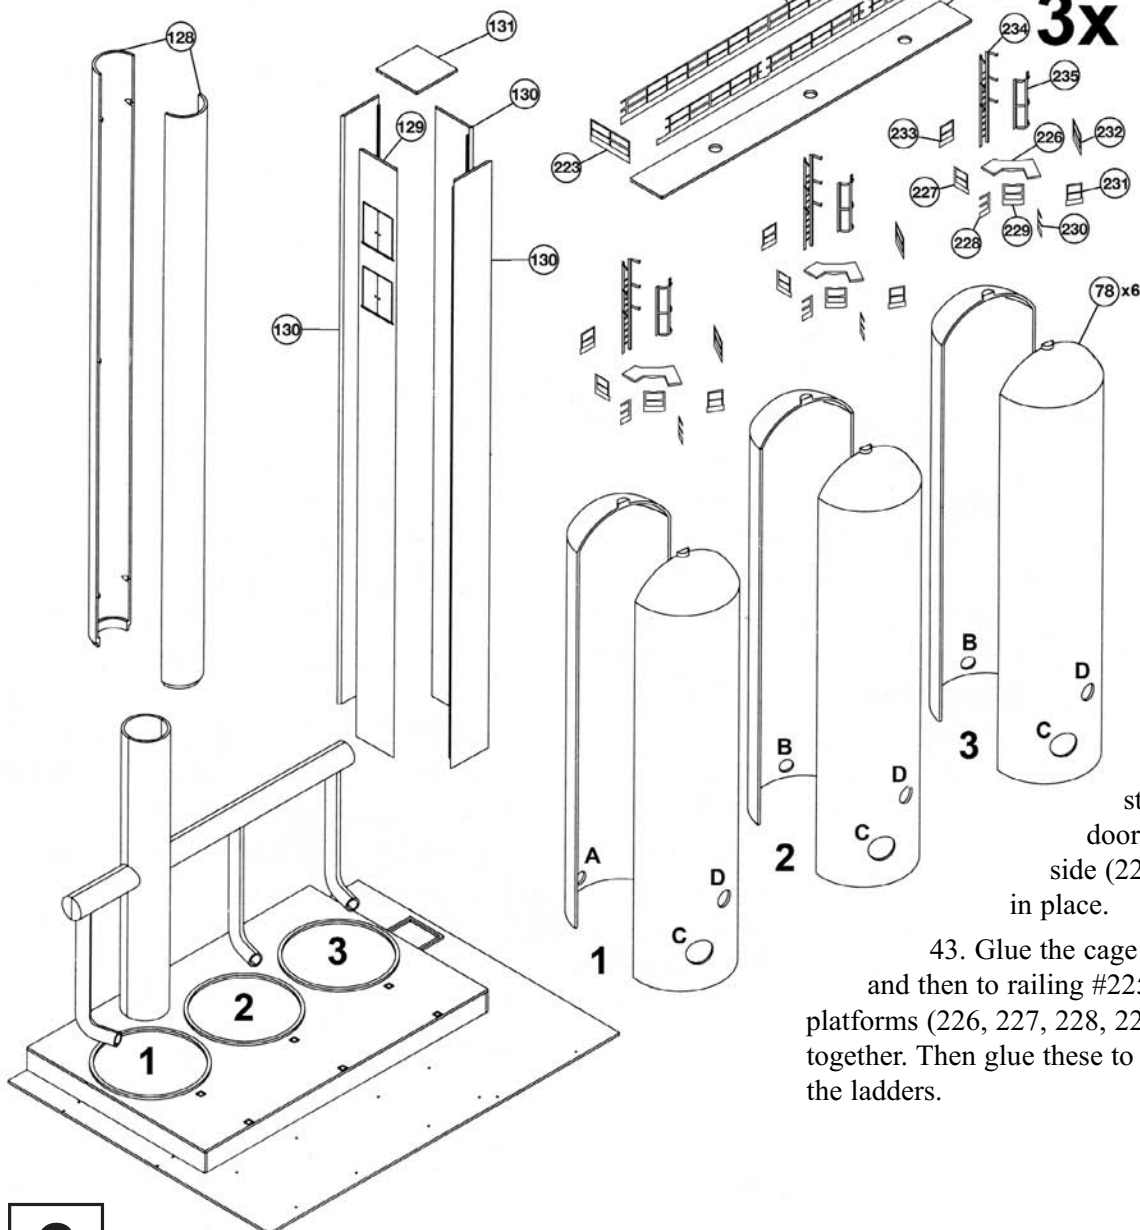

Figure 9
39. Position the stoves on the base in the order illustrated in Figure 9. Place the stack piping from step 36 onto the base. When the pipes line up properly and fit into the holes in the stoves, glue all in place.
40. Glue the upper stack halves (128) together and to the top of the lower stack.
42. Glue the stove platform (132) on top of the stoves and below the bottom doors on the elevator. Glue the side (224, 225) and end (223) railings in place.